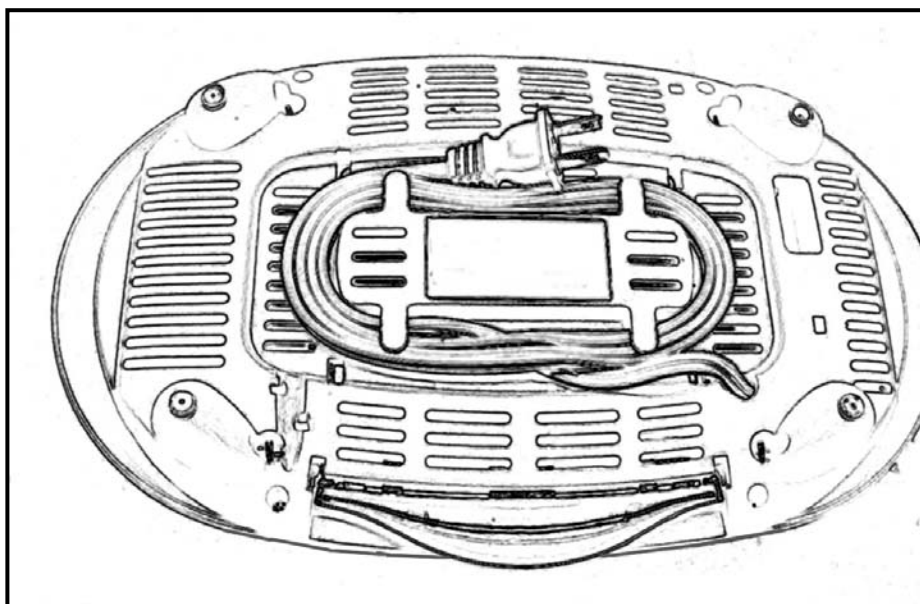

Fig. 3
2. Turn the toaster on its side and wrap the cord around the inside base for storing. (Fig. 3)